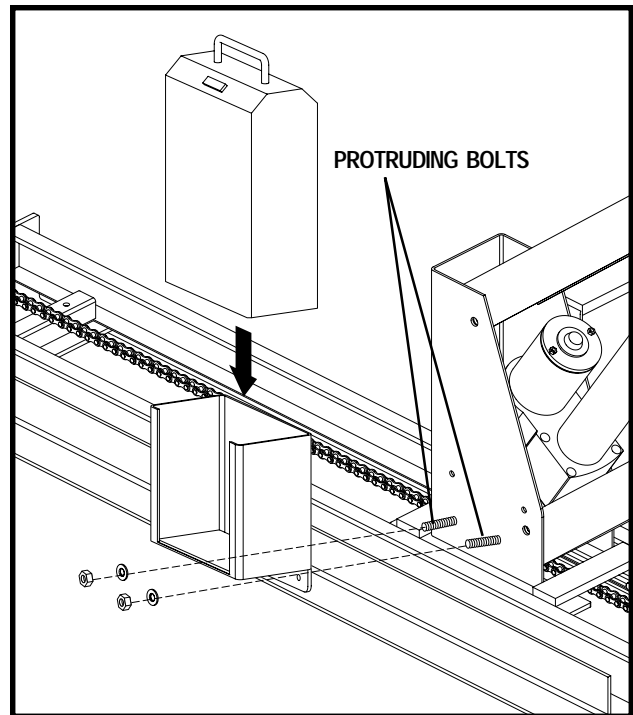

Figure 6. Onboard Battery Installation
1. Remove the rubber caps and nuts from the protruding bolts on the side of the lift motor housing. See figure 6.
2. Mount the battery case onto the protruding bolts and secure into position with the nuts removed earlier. See figure 6.